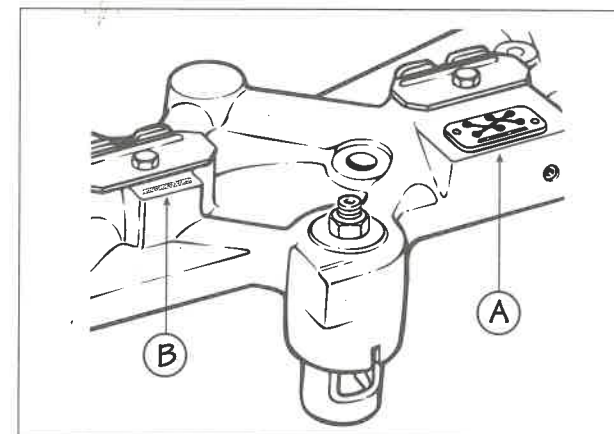

FIG. 1
Each engine brake housing assembly has an identification tag (A, Fig. 1) showing model number and installation location marked FRONT or REAR. Engine brake housing serial numbers are stamped on the top of the castings (B).